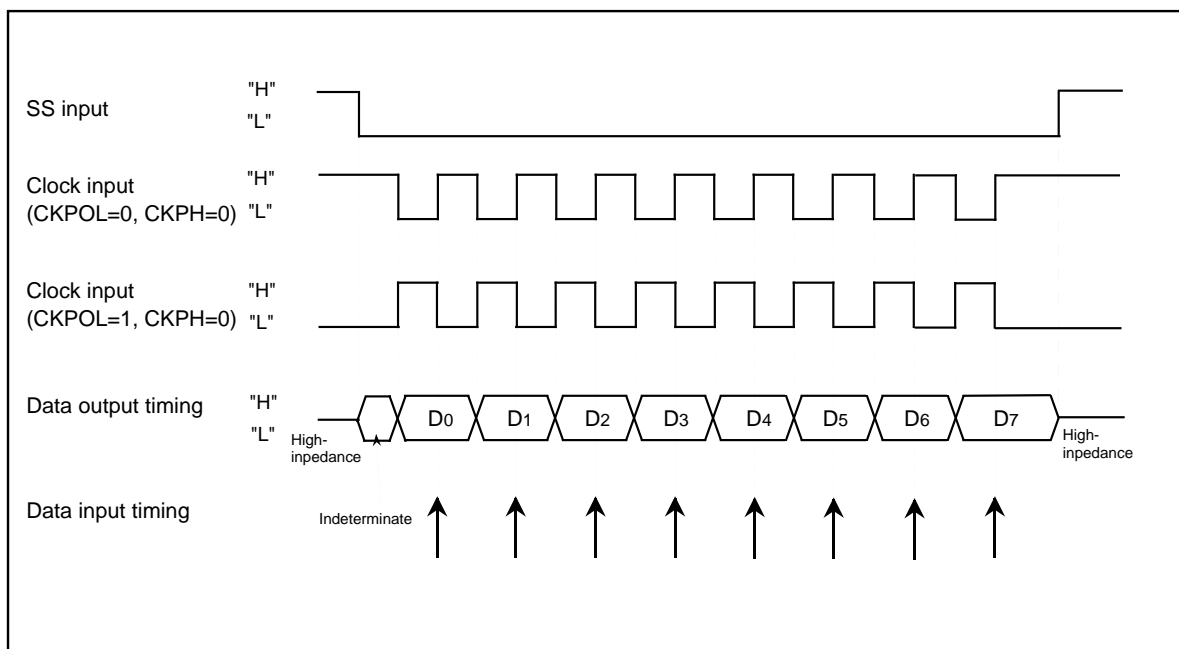

Figure 20.8 The transmission and reception timing (CKPH=0) in slave mode (external clock)
- With "0" for bit 1 (CKPH) of UARTi special mode register 3 (addresses 0325₁₆ and 02F5₁₆ [i = 3 or 4]), when an SSi input pin is H level, output data is high impedance. When an SSi input pin is L level, the serial transmission start condition is satisfied, though output is indeterminate. After that, serial transmission is synchronized with the clock. Figure 20.8 shows the timing.